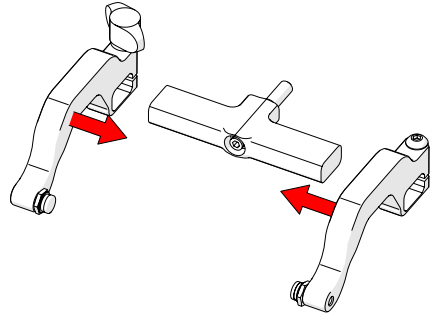

Fig. 167 - Place arms back onto yoke
6. Place the probe holder arms on the yoke and tighten the arm clamp screw and probe holder adjustment knob (Fig. 167).